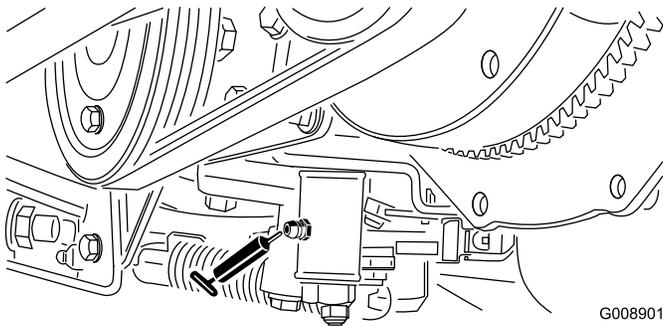

Figure 40
- Neutral-adjust mechanism (Figure 40)